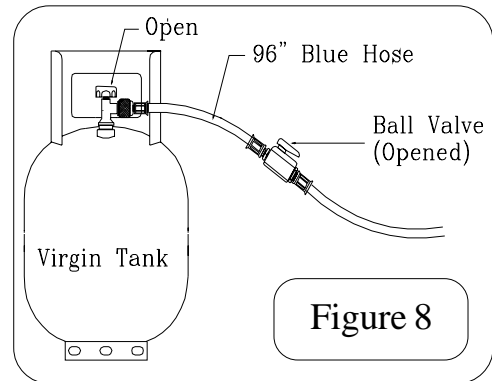

Figure 8
2. Attach low side blue hose from R-12 LOW INLET to the virgin's tank port. (Refer to Figure 8).